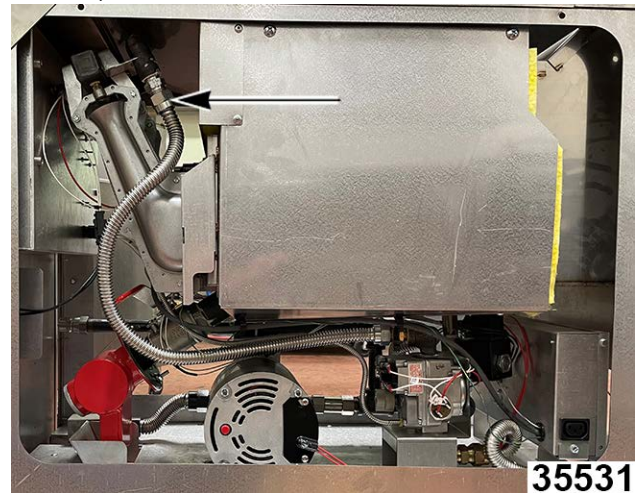

Fig. 48
6. Disconnect gas lines at burner manifold (1, Fig. 48)